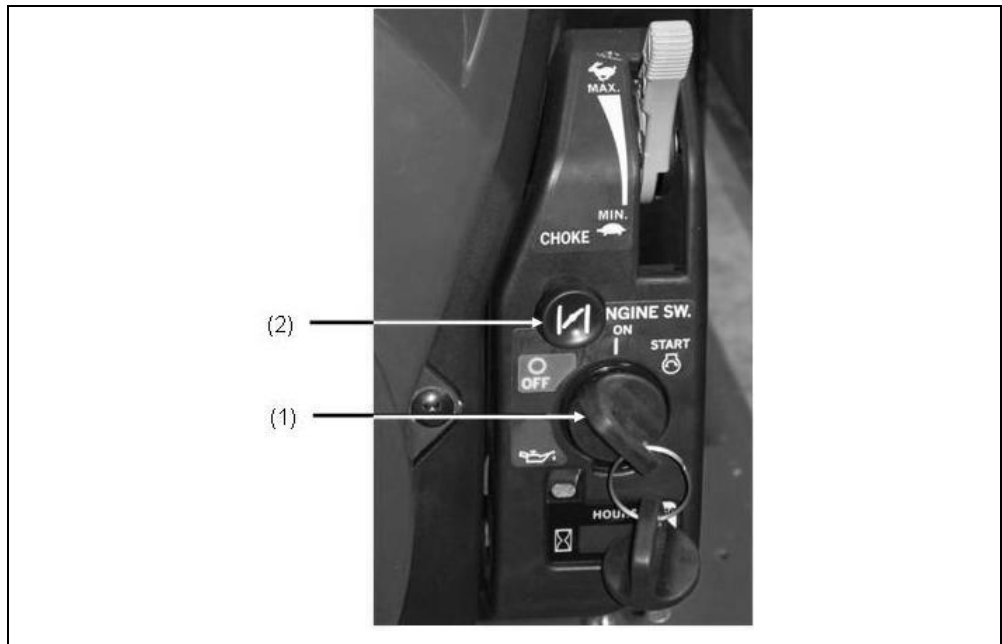

Fig. 3-1: Starting the motor
1. Pull on the manually-operated choke (Fig. 3-1-(2)) (completely for a cold engine / appropriately less for a warm engine) and hold firmly.
2. Turn the START-STOP switch (Fig. 3-1-(1)) completely into the position "START" until the engine starts and then release.
3. Bring the choke (Fig. 3-1-(2)) into the basic position again.
3. Set the START-STOP switch (*Fig. 3-1-(1)*) to position "0"